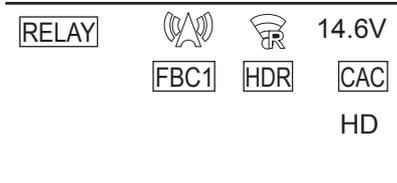

Fig. 1
- Level of the battery is sufficient in the status display in the control panel. (Fig. 1)